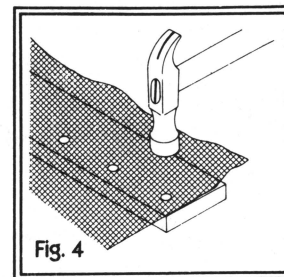

Fig. 4
4. Carefully place new screen over the frame. Make sure the screen is aligned with the frame. The top of the screen should be 1 inch above the top of the opening. Staple or tack every 2 inches across the top of the screen (fig. 4).